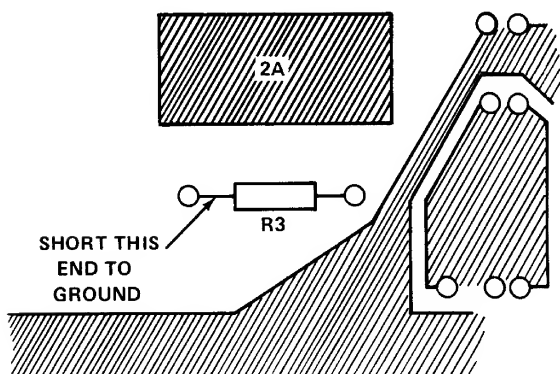

FIGURE 6. SHORTING RESISTOR R3
2. If there are eleven chips, you must short resistor R3 to ground (see Figure 6). Use a test clip to do this; **do not cut the resistor's leads**. R3 is at location 2A on the mother PC board; short the side of R3 nearest column 3.